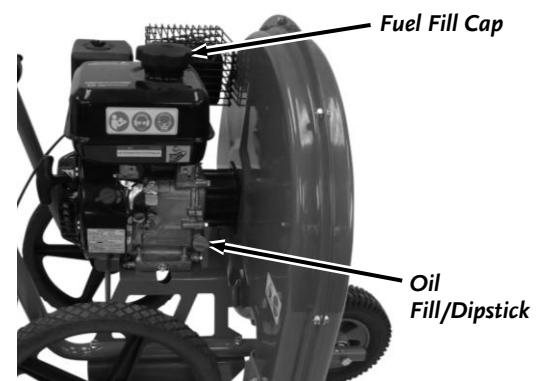

Figure 4
1. Remove the Oil Fill/Dipstick from the right hand side of the engine and wipe the Oil off using a clean Rag (**Figure 4**).
1. Remove the Cap from the Fuel Tank and insert a clean Funnel (**Figure 4**).